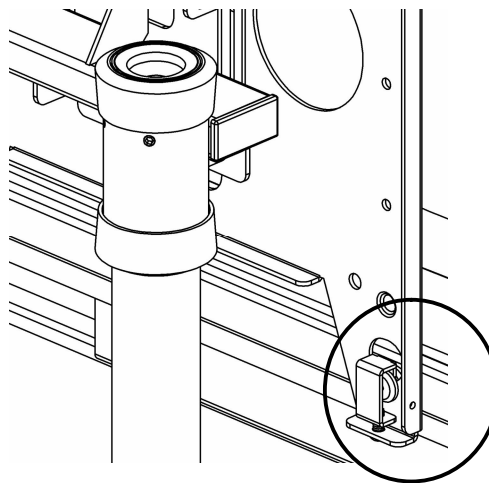
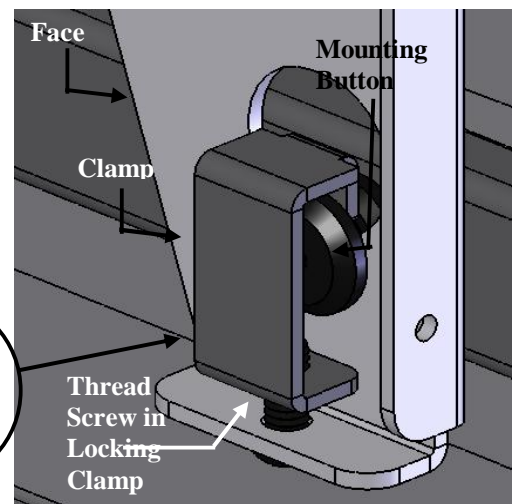

Figure 3
Figure 4
2. Place locking clamp over mounting button. Insert a 1/4-20 button head cap screw into the bottom of the mount face plate. Thread the cap screw into the bottom of the locking clamp. Tighten the cap screw until the locking clamp is snug on the mounting button. See Figure 3 and Figure 4.